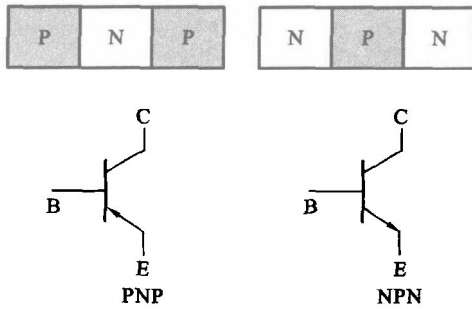

Fig. 1-2 Base, collector and emitter terminals in PNP and NPN bipolar transistors
Transistors are one of the most common types of semiconductor and widely used in electronics and can be broadly grouped into Bipolar and Field Effect types. Silicon tends to be the preferred choice as it has much better characteristics and better thermal stability and repeatability than germanium, although germanium is still used sometimes. A bipolar transistor essentially consists of a pair of PN junction diodes that are joined back-to-back. This forms a sort of a sandwich where one kind of semiconductor, N-type or P-type, is placed in between two others. There are therefore two kinds of bipolar transistor, the NPN and PNP, depending on which type of silicon is used for the 'meat' in the sandwich. The bipolar transistor has three terminals, labeled base (B), collector (C) and emitter (E) respectively and the arrow on the component diagram usually shows the emitter terminal, shown in Fig. 1-2. The letters refer to the layers of semiconductor material made the transistor. The direction of the arrow indicates the direction of current and shows the transistor is NPN or PNP. The principle of operation of the two types of transistor is the same apart from the direction of current flow through the device.